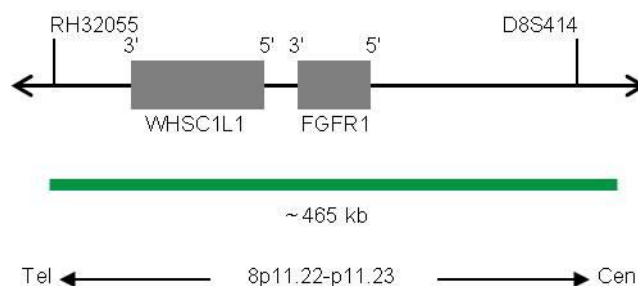

Fig. 1: SPEC FGFR1 Probe map (not to scale)
- ZyGreen (excitation 503 nm/emission 528 nm) labeled polynucleotides (~10 ng/ μ l), which target sequences mapping in 8p11.22-p11.23* (chr8:38,063,906-38,527,745) harboring the FGFR1 gene region (see Fig. 1).